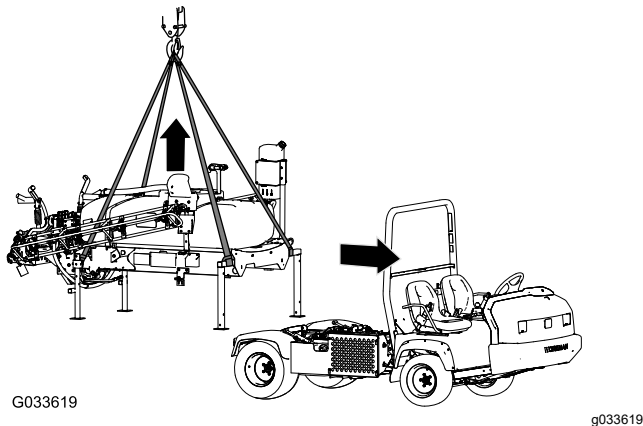

Figure 138
1. Lower the booms to approximately 45° and then pivot them forward (Figure 138).
5. Attach the lifting equipment to the horizontal tubes of the forward jack stands and the vertical post of the rear jack stands (Figure 138).
7. Lift the tank skid from the machine high enough to clear the skid from the machine (Figure 138).